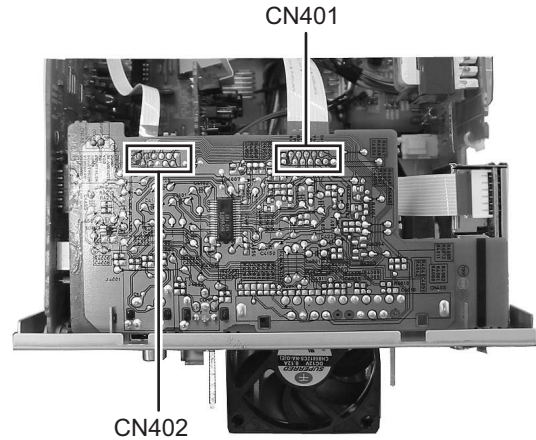

Fig.7
- (1) Remove the two screws **G** attaching the rear cover.
3.1.5 Removing the video board (Fig.7, 8)
- (1) Disconnect the card wire from the connector CN401 and CN402 on the video board. (See Fig.7)